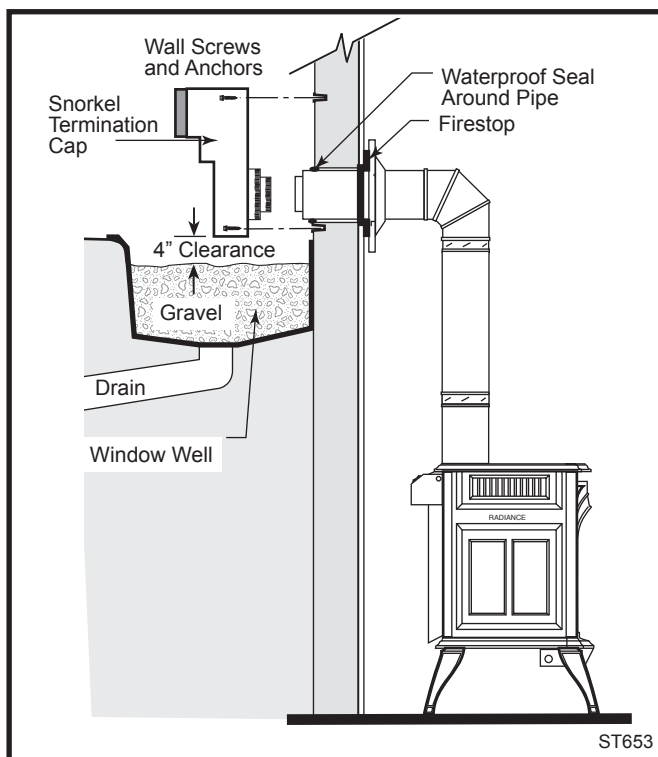

Fig. 31 Snorkel kit installation.
Install Snorkel Kit #7FSDVSKS when it is not possible to meet the required vent termination clearances of 12" (305mm) above grade level. The snorkel kit will allow installation depth of down to 7" (178mm) below grade level. The seven inches is measured from the center of the horizontal vent pipe as it penetrates the wall. **If the venting system is installed below grade, a window well must be installed with adequate and proper drainage.** (Fig. 31)
2. Remove soil to a depth of approximately 16" (406 mm) below the base of the snorkel. Install a window well (not supplied). Refill the hole with 12" (305mm) of coarse gravel and maintain a clearance of at least 4" (102 mm) below the snorkel. (Fig. 31)